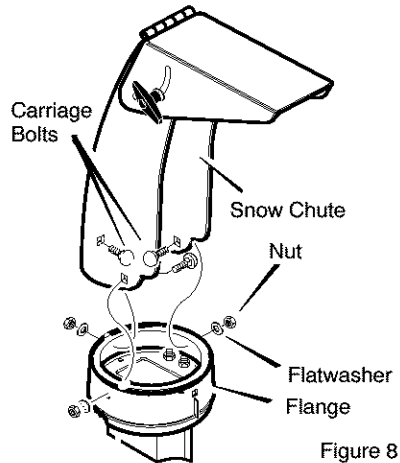

Figure 8
2. Position **snow chute** on inside of snow chute **flange** and align the three holes in the **snow chute** with holes on snow chute **flange**. (See Figure 8)
3. Place three **5/16-18 carriage bolts** from inside of chute as shown in Figure 8. (hardware is found in parts bag).